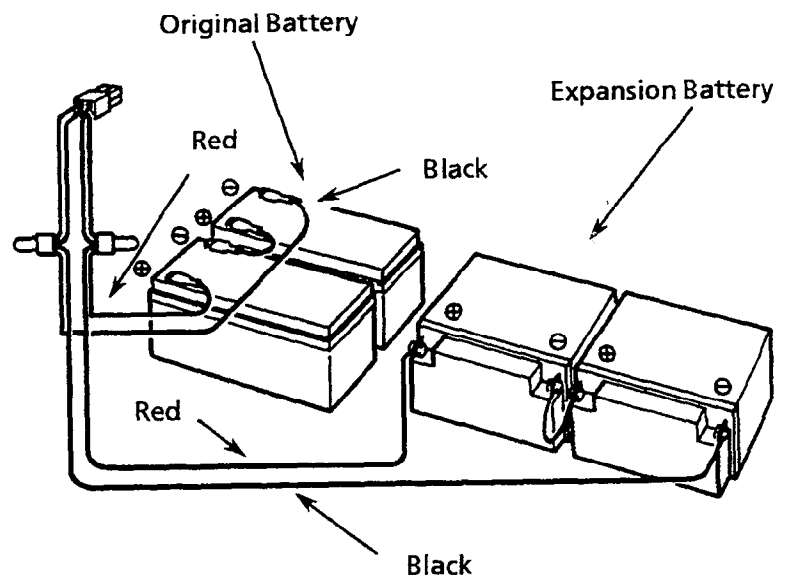

Figure 3-35 Connecting Expansion Batteries to the Original Batteries
2. Using the provided cords, connect the pairs of built-in batteries and expansion batteries in parallel with each other. Refer to Figure 3-35 - Connecting Expansion Batteries to the Original Batteries.